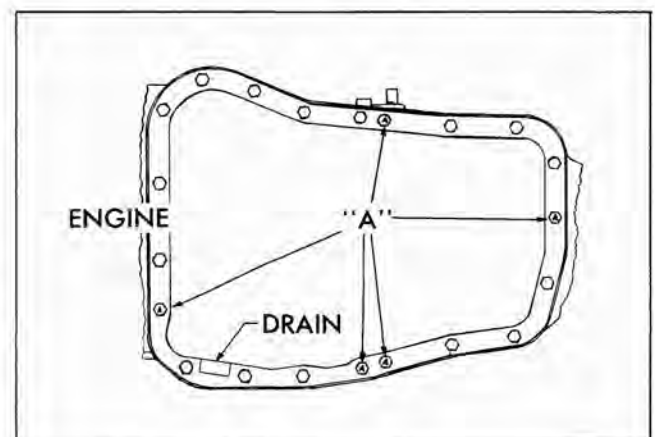

Fig. 139 Copper Washer Locations
9. Install oil pan on transmission. Secure with 21 attaching bolts. Place the bolts with copper washers in the locations "A" shown in Fig. 139. Torque all bolts to 12-15 ft. lbs.
When checking shift points keep in mind that there may be a slight variation from the speeds shown in the shift speed chart (Fig. 139). Slight variations are no cause for adjustment providing shifts are smooth.